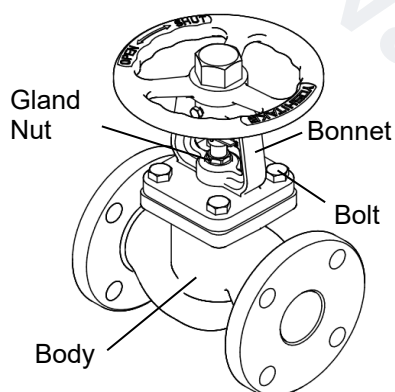

Figure 1
- To use the valve for high-temperature fluids (approximately 200-degree C or higher), raise the valve temperature to the operating temperature, and then tighten the bolts shown in Figure 1 additionally. For additional tightening, ensure that the valve is open, and tighten the bolts in a diagonal sequence using a torque wrench. Tightening should be done gradually and evenly, with increasing bolt torque from a low torque to the tightening torque as listed in the table below.